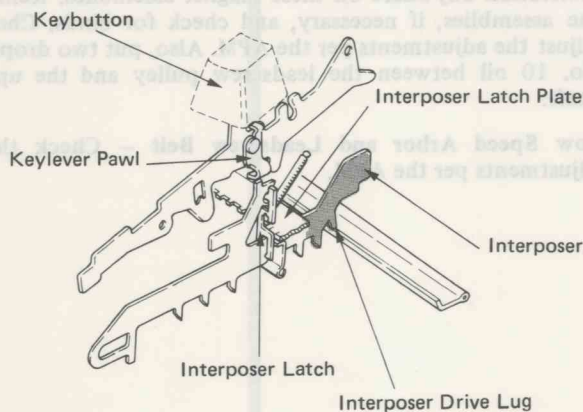

Figure 1
1. Keybutton Depressed – Interposer Latched (Figure 1)